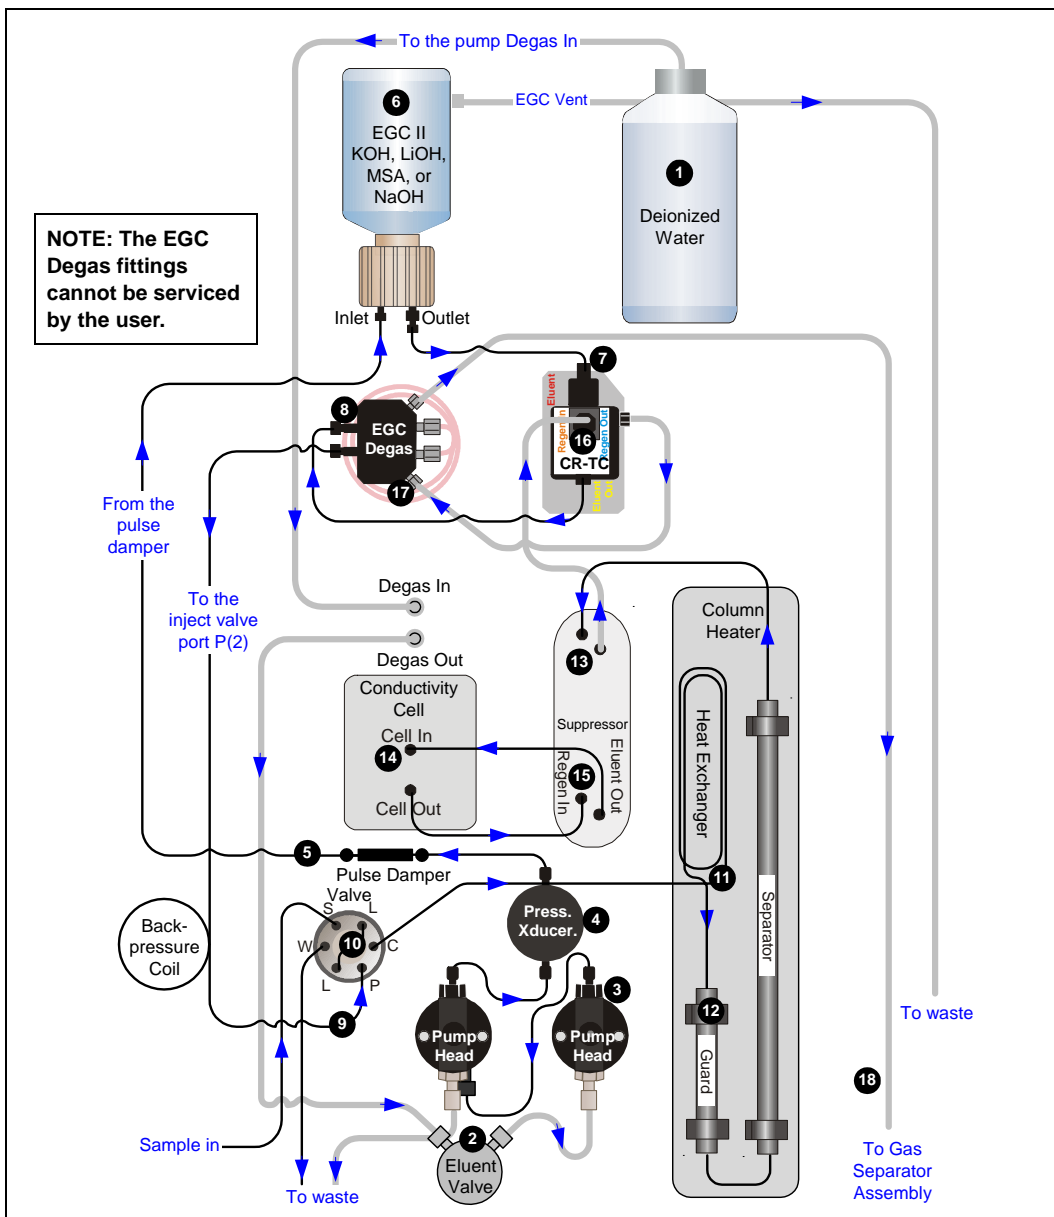
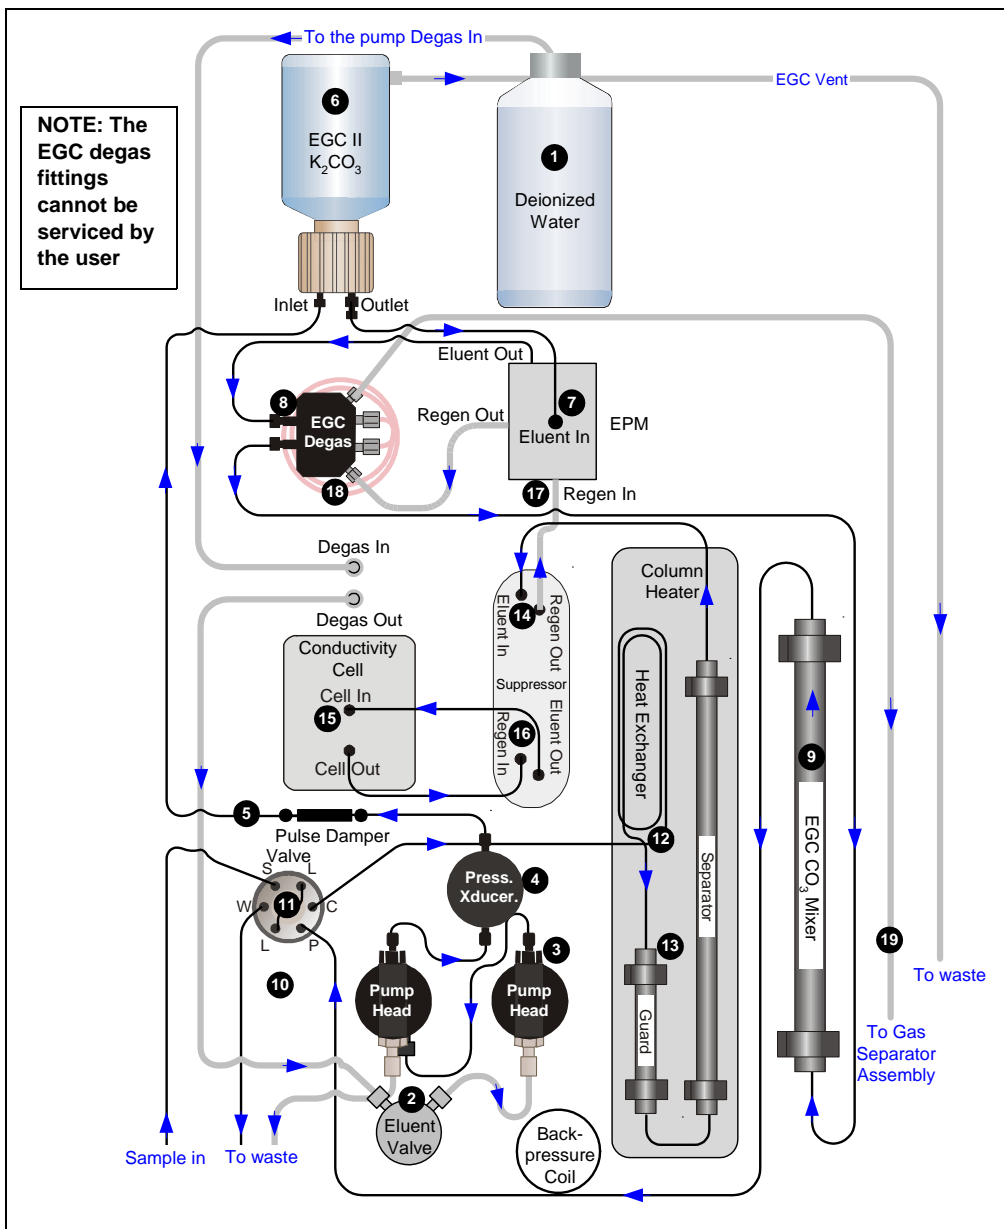
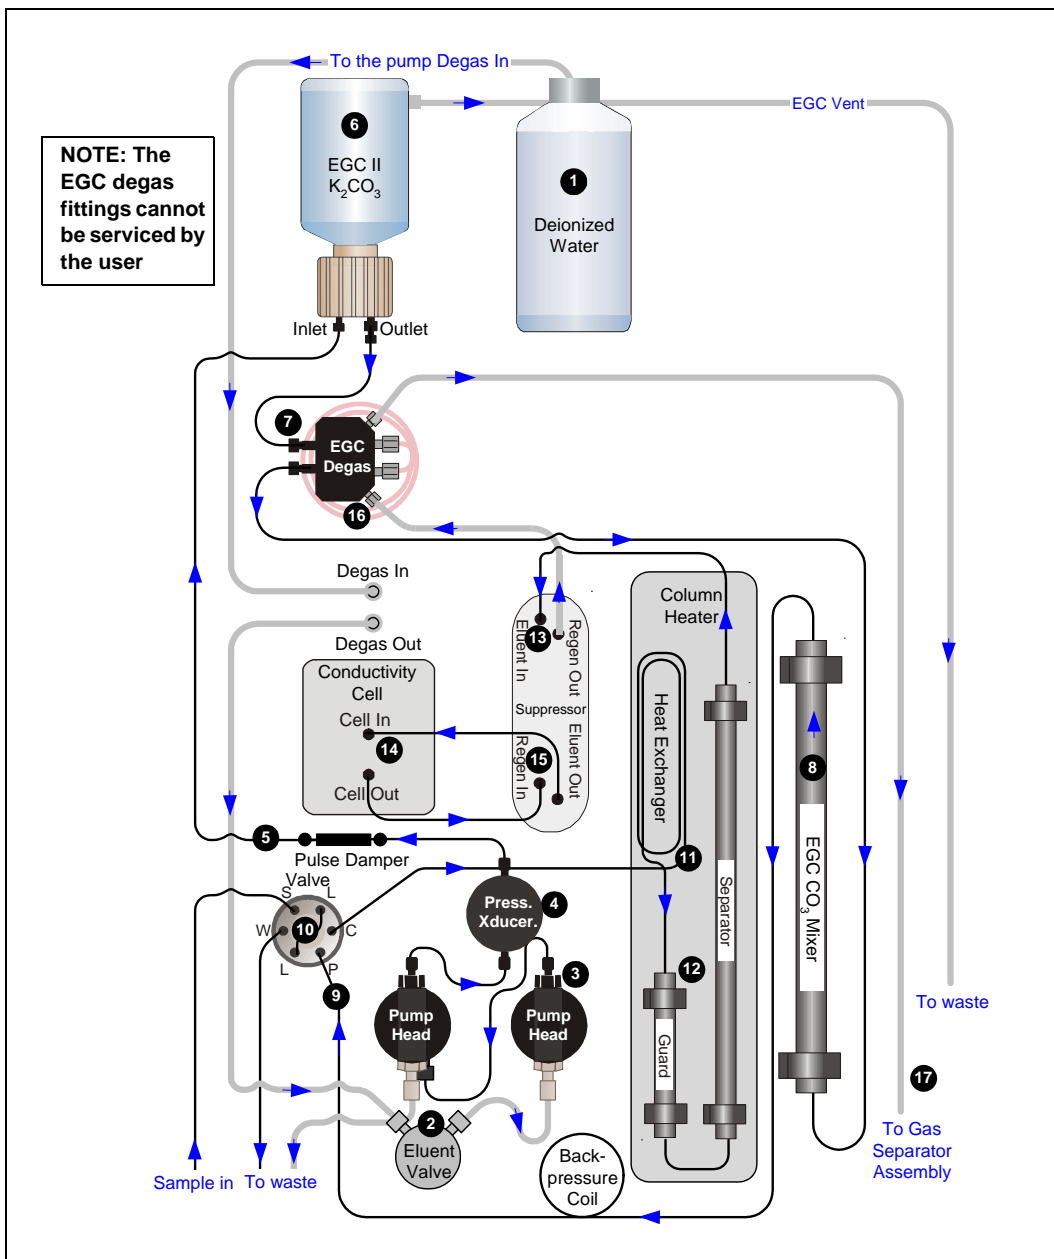

Figure 5-7. ICS-2000 Flow Schematic: KOH, LiOH, MSA, or NaOH Eluent Generation
Figure 5-8. ICS-2000 Flow Schematic: Carbonate/Bicarbonate Eluent Generation
Figure 5-9. ICS-2000 Flow Schematic: Carbonate Eluent Generation
2. Follow the ICS-2000 flow schematics in Figure 5-7, Figure 5-8, or Figure 5-9 and work backward through the system, beginning at the suppressor **Regen Out** port. One at a time, loosen each fitting and observe the pressure. The connection at which the pressure drops abnormally indicates the point of restriction.